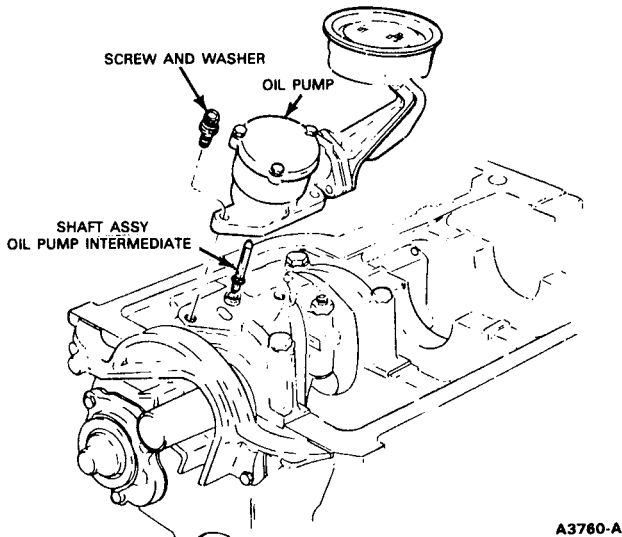

FIG. 49 Oil Pump Installation
- Remove the pump and shaft, Fig. 49.